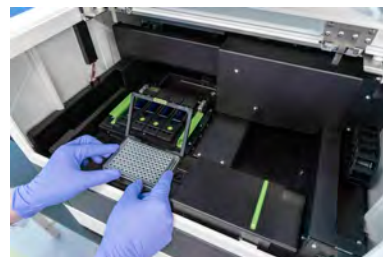

Figure 18: Insert the collection plate onto the plate holder when prompted
2. Insert the collection plate onto the plate holder (see Figure 18).